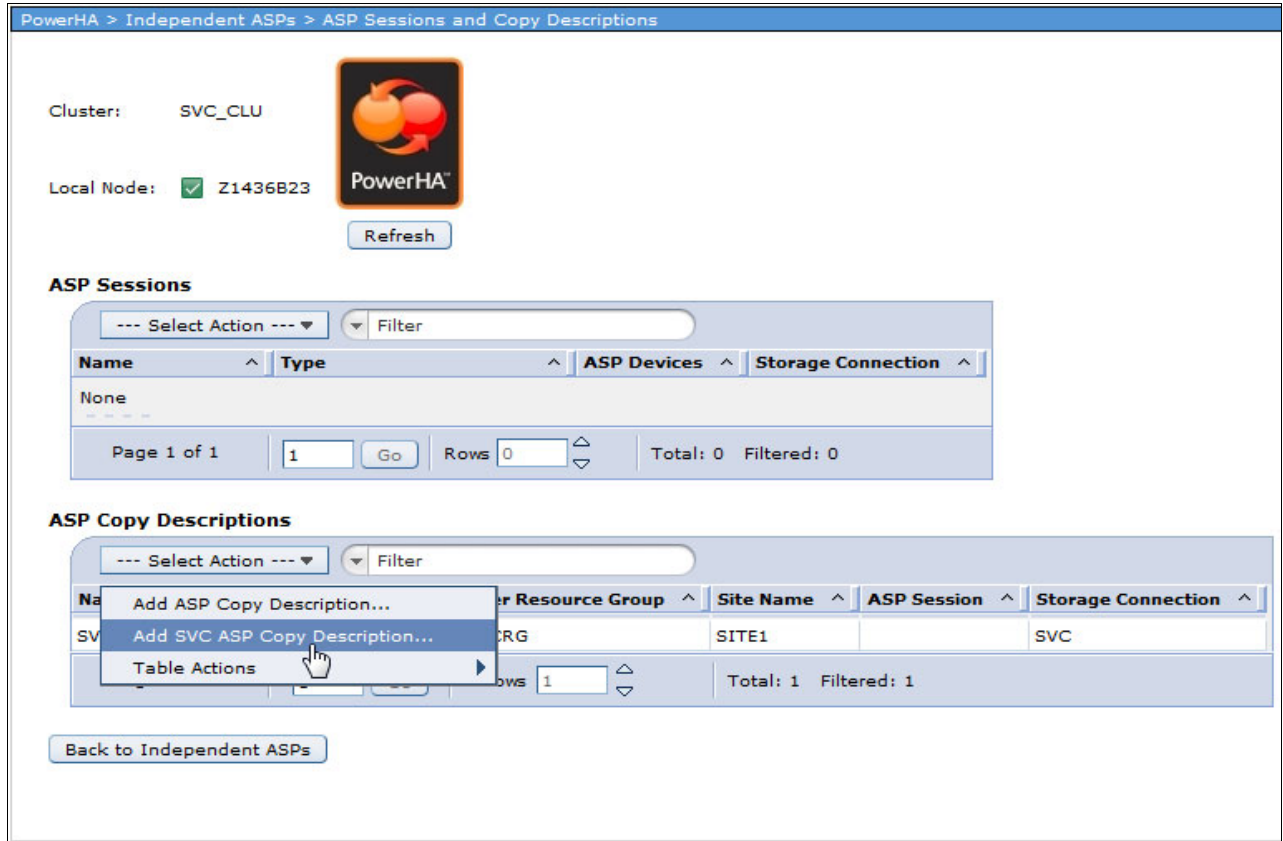

Figure 4-54 Three-node cluster: Adding a SAN Volume Controller copy description
16. In the PowerHA Independent ASPs, ASP Sessions and Copy Descriptions window, select **Add SVC ASP Copy Description** from the Select Action pull-down menu (as shown in Figure 4-54) because this example is working with a SAN Volume Controller/Storwize V7000 environment.